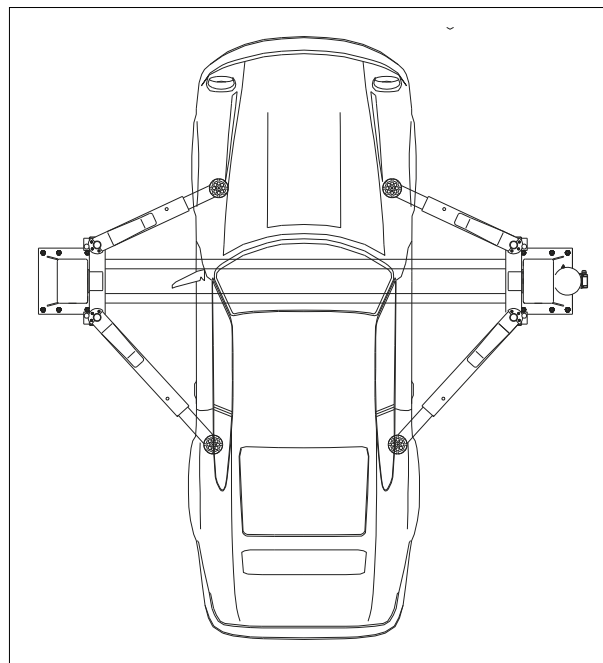

Fig. 12 Correctly Loaded Vehicle
It is important to position the vehicle on the lift so that the weight is correctly distributed on the arms. (**Fig. 12**) For person and equipment safety, it is important that:
- ◆ The vehicle is correctly positioned. (**Fig. 12**)